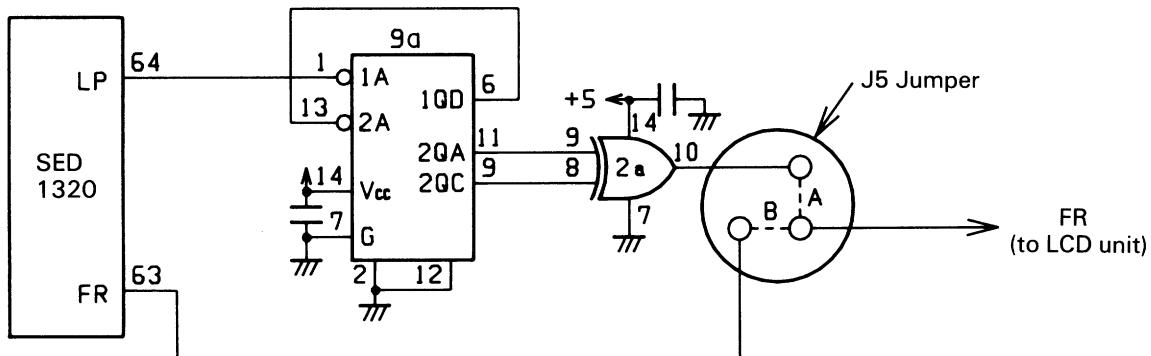
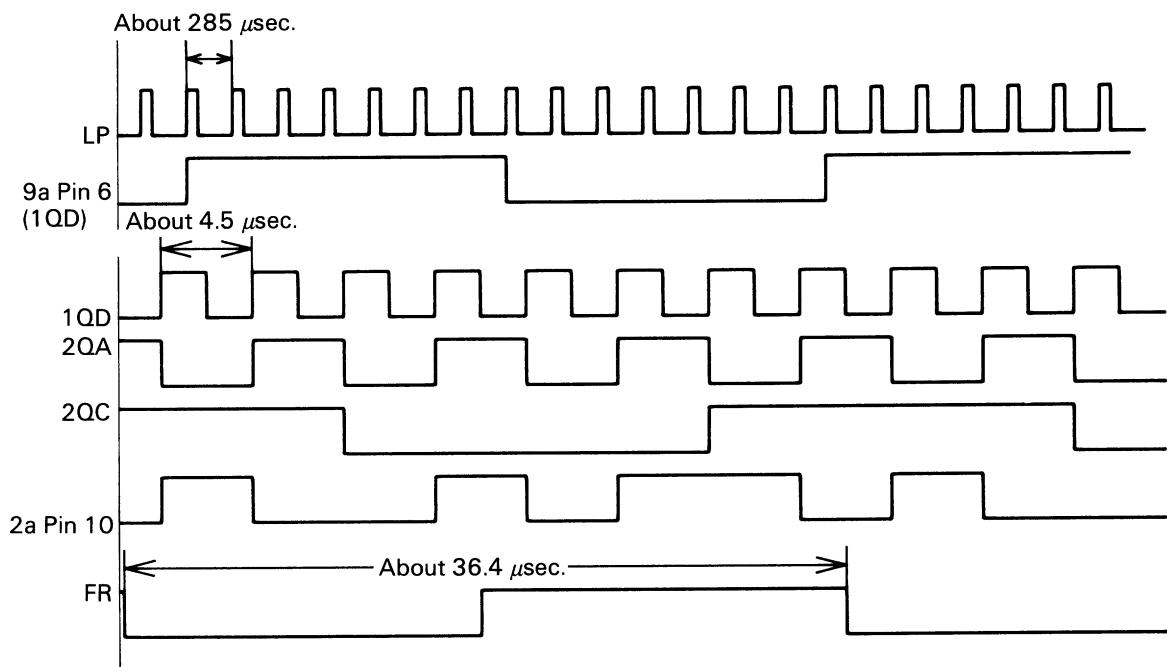

Fig. 2-84 FR Signal Generator Circuit
Fig. 2-85 Timing Relationship Among RF Signal Generator Circuit Signals
This jumper allows the user to select one of two frame (FR) frequencies. It switches the FR signal to change the panel display mode. Jumper terminal A (see Fig. 2-84) is wired when the computer is shipped. Fig. 2-84 shows the FR signal generator circuit which includes the jumper Fig. 2-85 illustrates the timing relationships among various circuit signals.